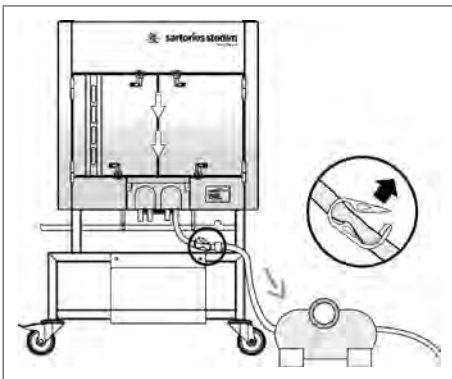

Figure 71
3. Open the clamp. Drain the bag – Gravity or peristaltic pumping can be used (see Fig. 71).